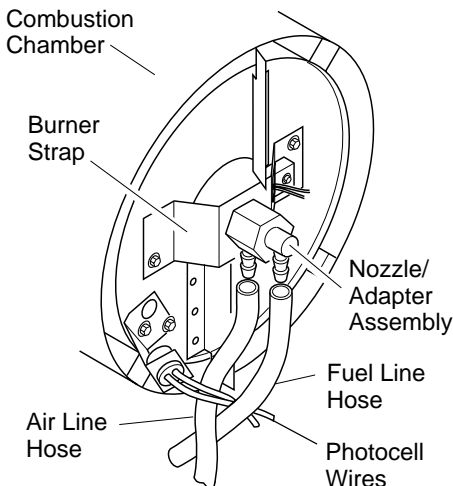
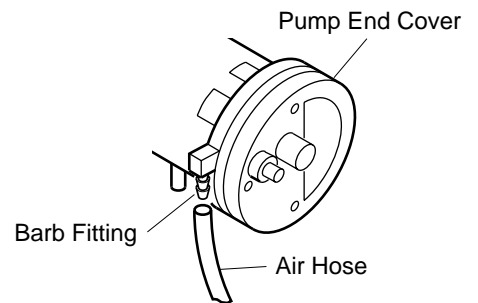

Figure 12 - Removing Air and Fuel Line Hoses
Figure 15 - Air Hose to Barb Fitting
14. Replace photocell in photocell bracket. Route wires as shown in Figure 12, page 9.
3. Remove fuel and air line hoses from nozzle assembly (see Figure 12).
11. Attach and route fuel and airline hoses to nozzle assembly as shown (see Figure 12). Route photo cell wires as shown in Figure 12.
4. Inspect fuel and air line hoses for cracks and/or holes. If fuel line hose is damaged, disconnect from nozzle adapter (see Figure 12) and from fuel filter (see *Fuel Filter*, page 8). If air line hose is damaged, disconnect from nozzle adapter (see Figure 12) and from barb fitting on pump end cover (see Figure 15).
5. Install new air and/or fuel line. Attach one end of air line hose to barb fitting on pump end cover (see Figure 15) and the other end to nozzle adapter (see Figure 12). Attach one end of fuel line hose to fuel filter (see *Fuel Filter*, page 8) and the other end to nozzle adapter (see Figure 12). Route air and fuel line approximately as shown in Figure 12. **Note:** Route hoses as shown in Figure 12. Hoses are not to touch photocell bracket.